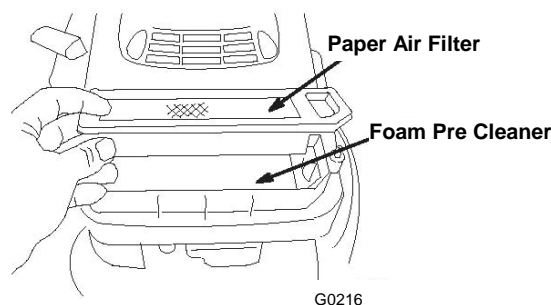

FIGURE 13
- Remove the paper air filter and discard it as required (Figure 13).
- Remove the foam pre-cleaner and wash it with a mild detergent and water, then blot it dry (Figure 13).